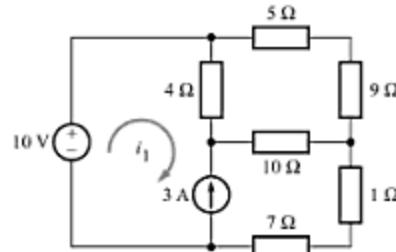

Fig. A-117
- A-84. Determine the current i_1 in the circuit of Fig. A-117.